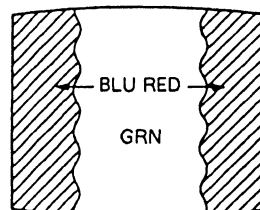

Fig. 3-2
4. Move the deflection yoke backward, and adjust purity magnet so that the green on the screen to become in the center of screen as shown in Fig. 3-2.